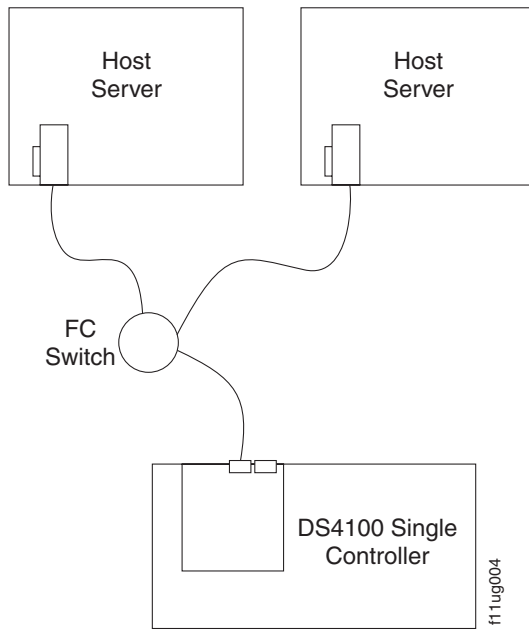

Figure 32. Example of a dual-server, single-SAN fabric configuration with one adapter on each server (single-controller storage server)
- Dual-server, single-SAN fabric configuration with one adapter on each server, as shown in Figure 32 on page 42